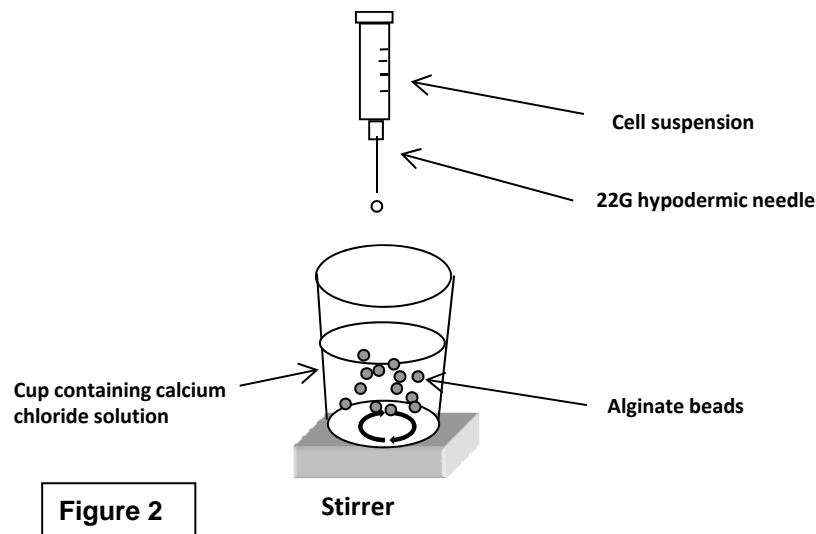

Figure 2
- (1) Put a sterile stir bar in a sterile specimen cup (or a 100 mL beaker) and dispense 50 mL calcium chloride solution. (Preparation of beads is possible without using a stirrer, but better results can be obtained if the solution is stirred.)
- (2) Harvest cells using enzymes such as trypsin, and prepare the cell pellet (containing 1×10^6 cells) into a 15 mL tube.
- (3) Dispense 5 mL sodium alginate solution into the 15 mL tube and mix it well with a pipette to ensure a homogeneous cell suspension.
- (4) Attach the plastic flexible needle to a 5-mL syringe and aspirate the cell suspension into the syringe.
- (5) Remove the plastic flexible needle from the cell suspension syringe and attach a 22G hypodermic needle.
- (6) Set the specimen cup containing the calcium chloride solution on the stirrer, and rotate the stir bar to mix the solution.
- (7) Hold the cell suspension syringe in an upright position over the specimen cup (Figure 2). Add the cell suspension into the calcium chloride solution containing cup at about two drops per second. Position the tip of the needle 3 cm or higher above the liquid surface of calcium chloride.
- (8) When finished, let the beads stand for 10 min without turning off the stirrer. Check if the alginate beads have coagulated. The beads should appear completely white by visual observation; the center of the bead should also be white. We recommend that the beads be placed against a black background for better visualization.
- (9) Remove the calcium chloride solution from the cup using a manual pipette. Tilt the 25 mL pipette slightly and gently remove the solution while allowing the tip to touch the bottom of the cup so that the solution can remove through the tip without aspirating the beads.
- (10) Dispense 100 mL saline solution to the cup and mix for 10 min (or let stand for 15 min).
- (11) Remove the saline solution from the cup in a similar manner of (9). Dispense 100 mL medium to the cup and mix for 10 min (or let stand for 15 min).
- (12) Dispense 1–2 mL medium to each well of a 24-well plate.
- (13) Remove the medium from the cup in a similar manner of (9).
- (14) Use a sterile spatula to scoop 10 alginate beads from the cup and place each bead into a separate well of the 24-well plate.
- (15) Add test substances into the culture medium to start the culture.
(16) Change medium, if necessary, until a good formation of colonies is achieved in each well.